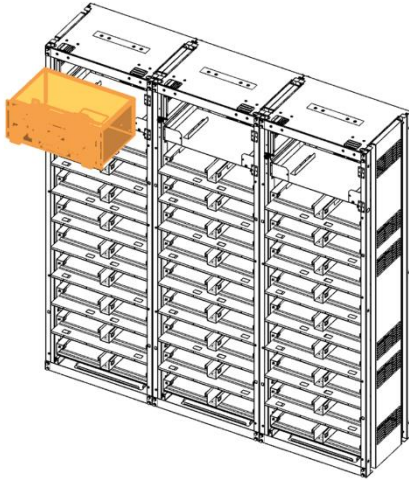

Figure 3-19: Inserting BCU
1. Insert the BCU through the front of the rack as shown in Figure 3-19: Inserting BCU. Insert all BCUs into all rack frames.